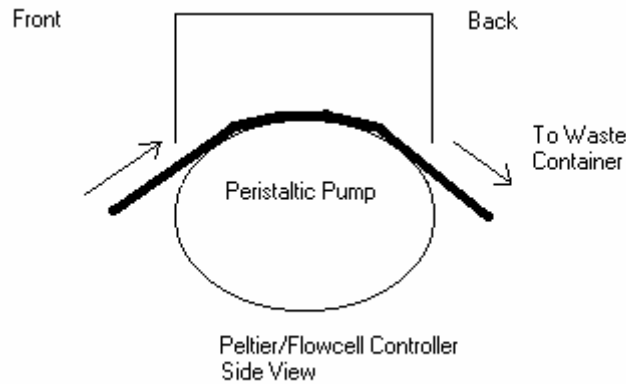

Figure -22 Peltier/Flowcell Controller Side View
Step 13 Connect the tubing from the outlet connector of the Flow-Thru Panel to the Peltier/Flowcell Controller (Figure-22). Push the tubing into one of the two locking positions on both the Front and Back side of the Peristaltic Pump.